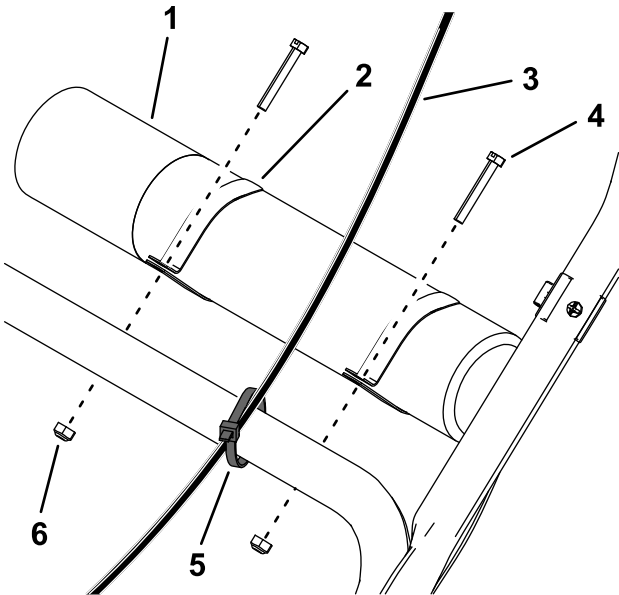

Figure 5
2. Secure the throttle cable over the lower handle using a cable tie (Figure 5).
3. Slide the clamps onto the *Operator's Manual* tube and install it on top of the lower handle using 2 slotted-head bolts and 2 locknuts (Figure 5).